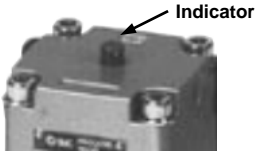

Fig.1
- The valves with mechanical indicator give visual indication of when the valve is open. See fig.1 for location of indicator.